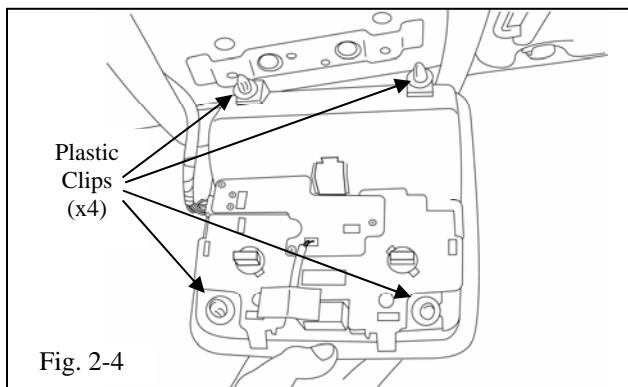

Fig. 2-4
(d) Ensure that all (4) plastic clips are removed with overhead dome light assembly. (Fig. 2-4)
(1) Remove any plastic clips left in overhead area and reattach to dome light assembly if necessary.